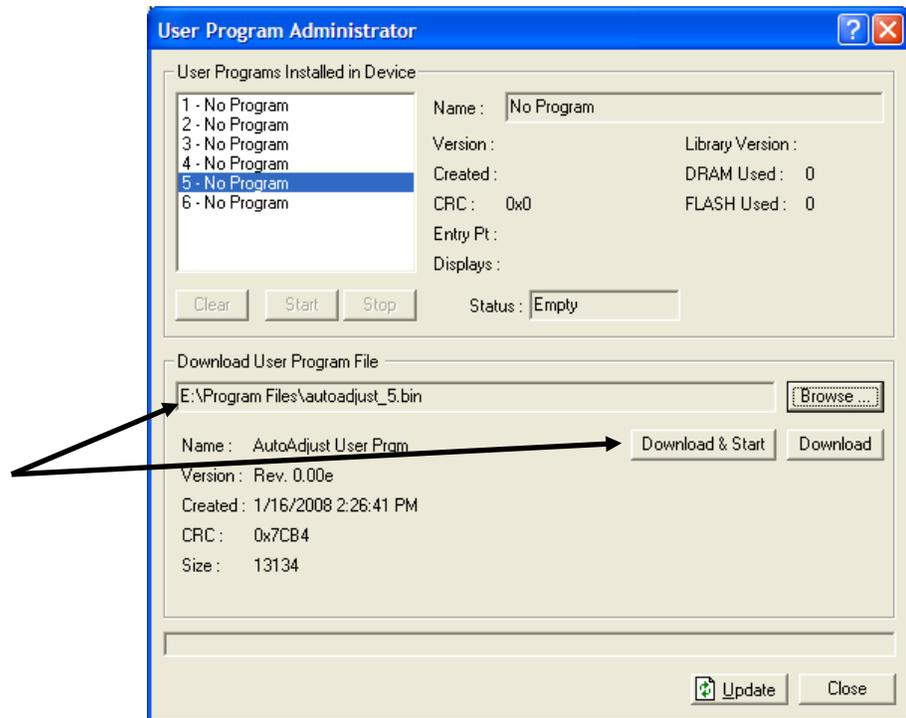

Figure 7. User Program Administrator
6. Click **Open** to select the program file. The User Program Administrator screen displays. As shown in Figure 7, note that the Download User Program File frame identifies the selected program and that the **Download & Start** button is active: